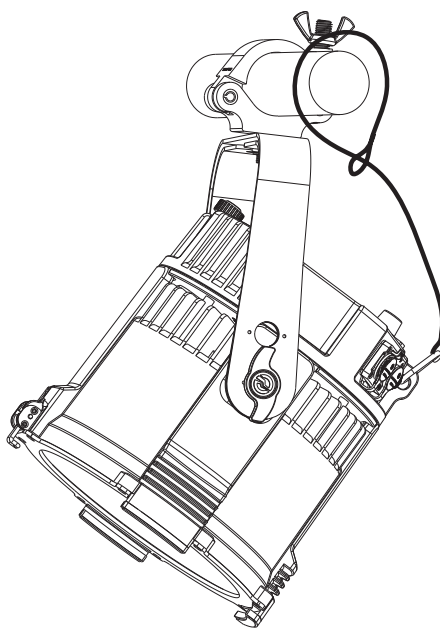

Figure 4. Truss mounting
1. Attach a suitable clamp to the mounting bracket of the XPAR 12Z as shown in Figure 4.
2. Split the bracket into its two sections and position them at 90 degrees to each other as shown in Figure 4.